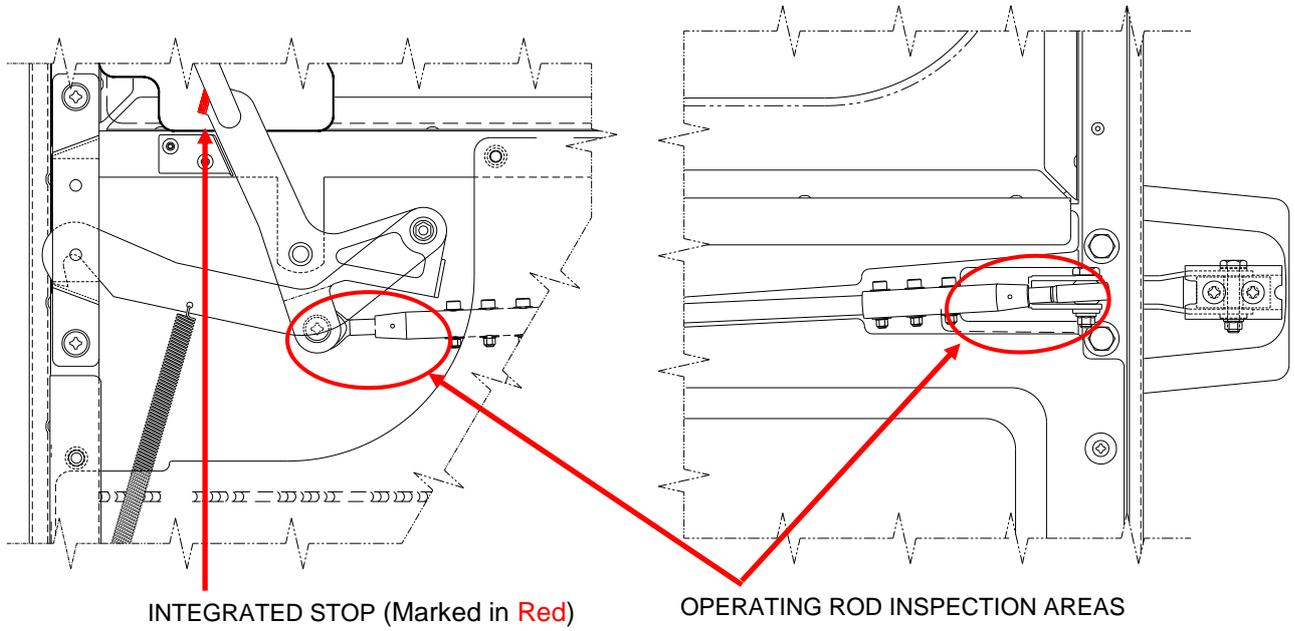

Figure 8: Rear Door Handle Mechanism - Inspection Areas.
3. Inspect threaded studs and rod ends at both ends of the operating rod as shown in Figure 8. If there is any indication of bending:
2. Inspect rear door handle for integrated stop (bent over tab), refer to Figure 8 and Figure 9. Replace door handles without an integrated stop with Item 10 from Table 5. Use a sufficient amount of grease (compound C3 of Table 7) on the handle shaft.